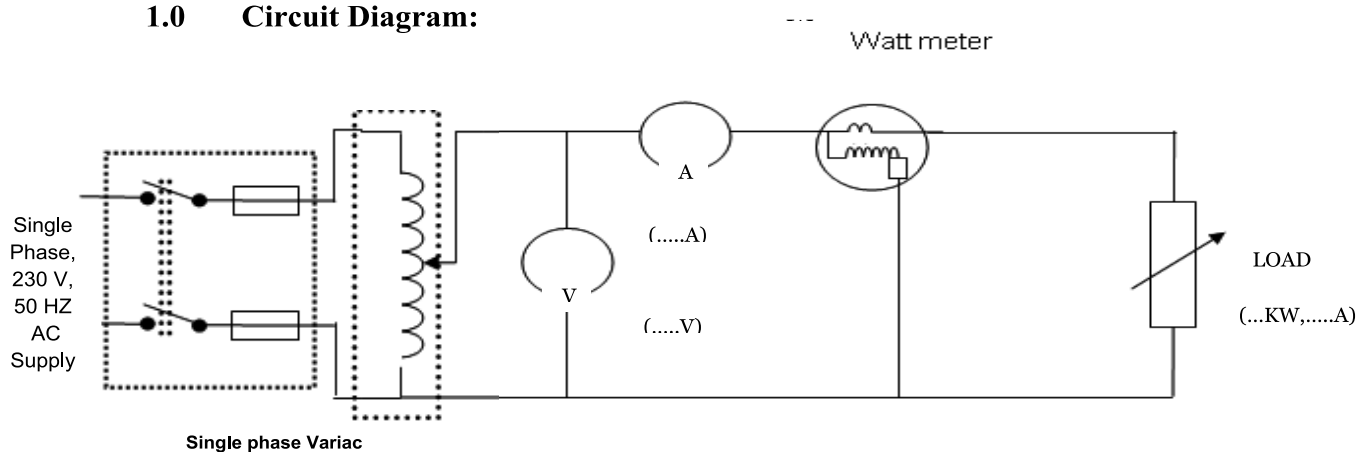

Figure 2 :Measurement of power in single phase circuit
1. Make the connections as per Figure 2.